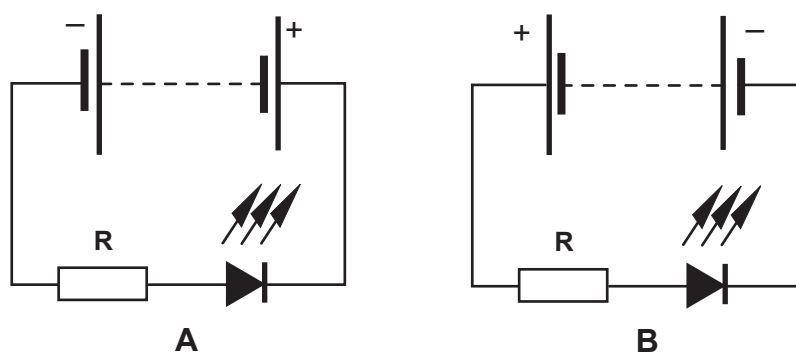

Fig. 19
- (a) Fig. 19 shows two simple circuit diagrams, **A** and **B**, for driving a LED (light emitting diode).
The power supply to one of the circuits in Fig. 19 has been connected incorrectly.
- (iii) Explain the purpose of the resistor **R** in Fig. 19.
- (b) The LED in Fig. 19 has a forward voltage drop of 2.5V and the current through it should be limited to 20mA.